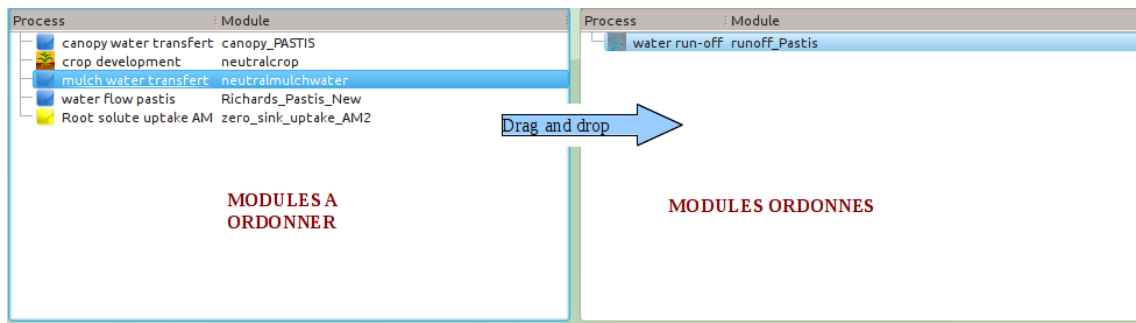

Figure 35: Area for scheduling modules
4. **Scheduling** The module scheduling is done in the “Sort modules” part (bottom left part of the window). Below the explanatory text, two lists are displayed. On the left is the list of modules to be scheduled, on the right the list of scheduled modules. The list on the right is initially empty. To schedule the modules, select them on the left side and drop them on the right side one after the other (see figure 35).